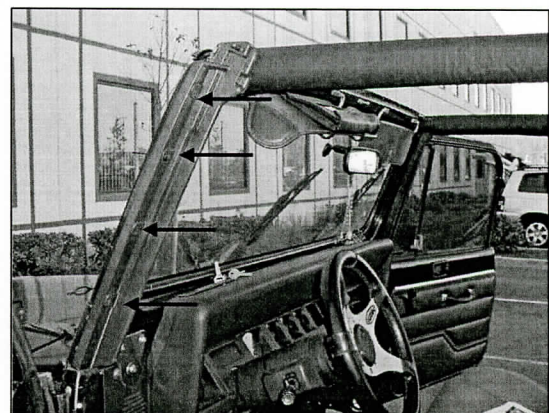

Figure 3
5. Re-position Upper Door Windshield Insert and secure it by using the included (4) – ST4.2 x 12 Sheet Metal Screws (Figure 3).